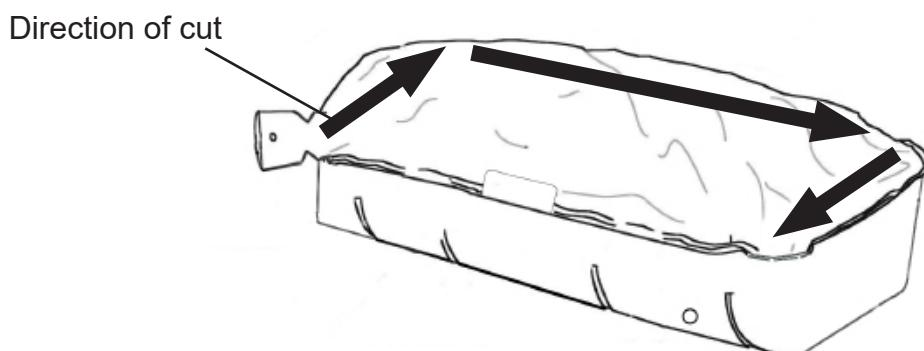

FIGURE 211
- 4.2.10 Use scissors to cut around three sides of the sealed H-Pack. Refer to **Figure 211**.